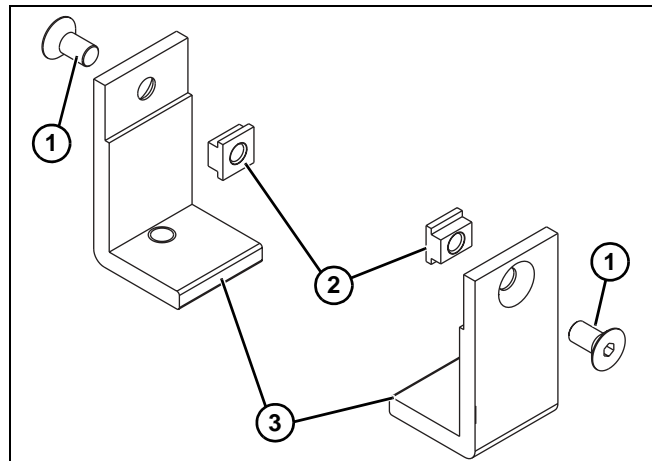
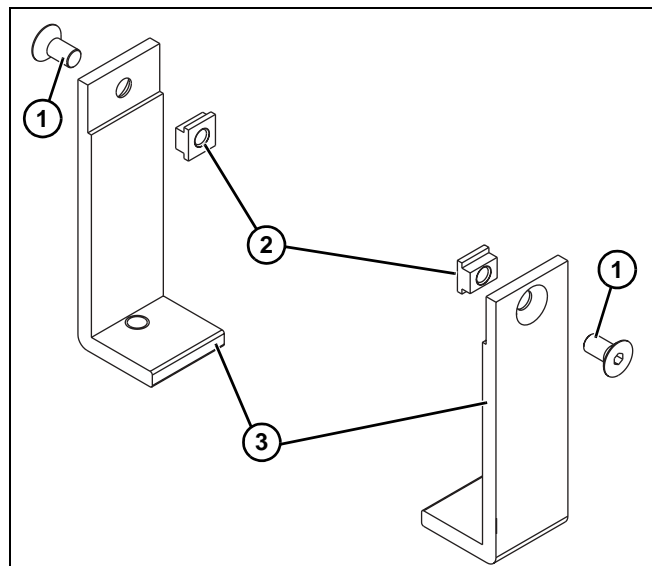

Figure 4
Figure 5
1. Locate short or tall mounting brackets. Exploded views shown in Figure 4 & Figure 5.
2. Remove screws (**Figure 4, item 1**) or (**Figure 5, item 1**), and T-bars (**Figure 4, item 2**) or (**Figure 5, item 2**) from short brackets (**Figure 4, item 3**) or tall brackets (**Figure 5, item 3**).